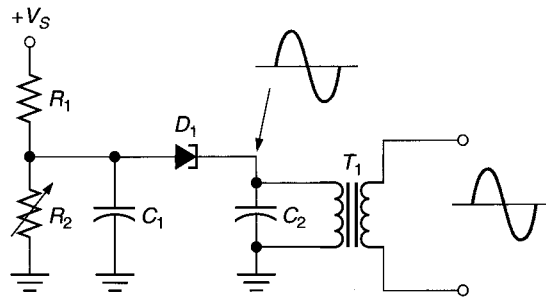

FIGURE 5.15 Tunnel diode oscillator.
tunnel diode oscillator can be understood using basic diode principles. The basic tunnel diode oscillator, which is also referred to as a **negative resistance oscillator**, is shown in Figure 5.15. Note that the circuit is shown to have a dc input voltage (labeled  $+V_S$ ) and an ac output signal. The output frequency of the circuit is approximately equal to the resonant frequency of the  $LC$  tank circuit. The tank circuit in the negative resistance oscillator is formed by the primary of the transformer and  $C_2$ .
The negative resistance oscillator in Figure 5.15 uses a tunnel diode to generate and sustain a sinusoidal output with only a dc input (as shown in the figure). To understand this principle, we need to take a brief look at what happens when a current pulse is provided to a parallel  $LC$  circuit.
The key to sustaining a sinusoidal output from an  $LC$  tank circuit is to provide it with additional current at the peak of each cycle, as shown in Figure 5.16c. When current is provided to the tank circuit on each cycle, the energy lost is restored to the circuit and the cycles continue at a constant amplitude. With this in mind, let's go back to the circuit shown in Figure 5.15.
7. Briefly explain the operation of the circuit in Figure 5.15.